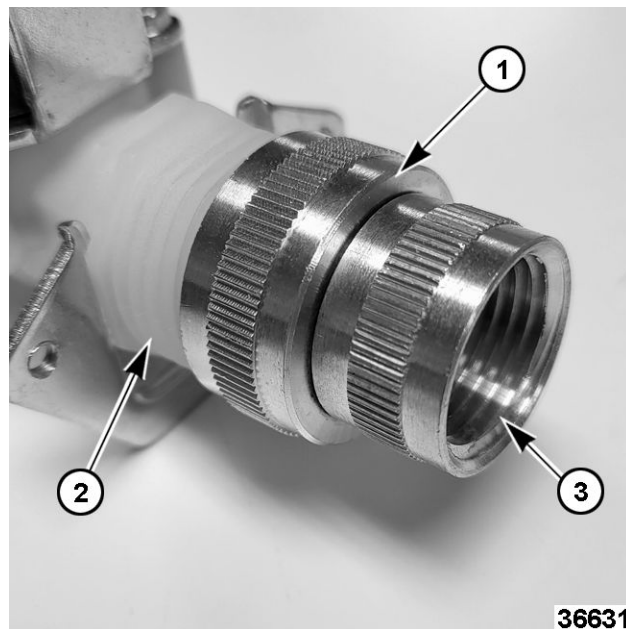

Fig. 87
1. Hand-tighten GHT fitting to water solenoid valve (2, Fig. 87).
NOTE: No sealant or Teflon tape is required on the valve end of fitting (1, Fig. 87) as it has a rubber washer preinstalled.
2. Apply NSF thread sealant or Teflon tape to the male NPT fitting (not shown) that attaches to the NPT side (3, Fig. 87) of the GHT fitting.